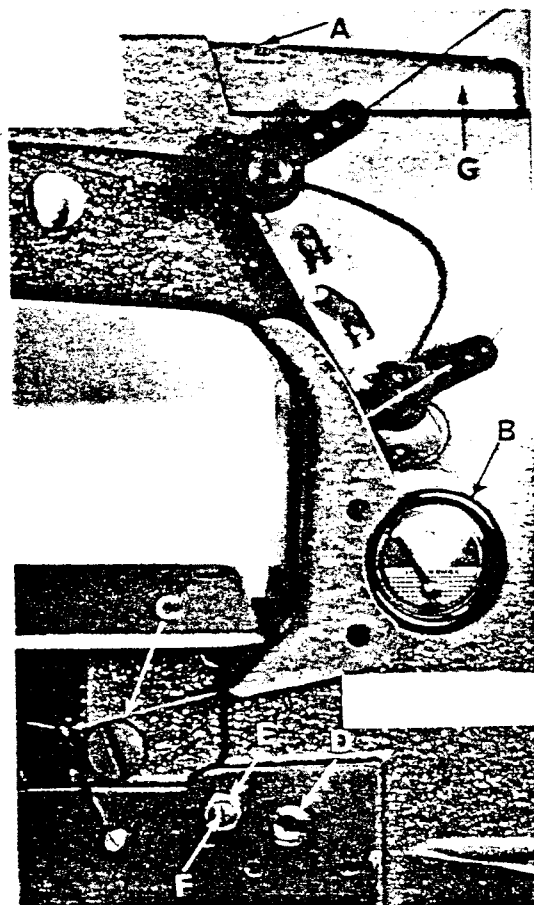
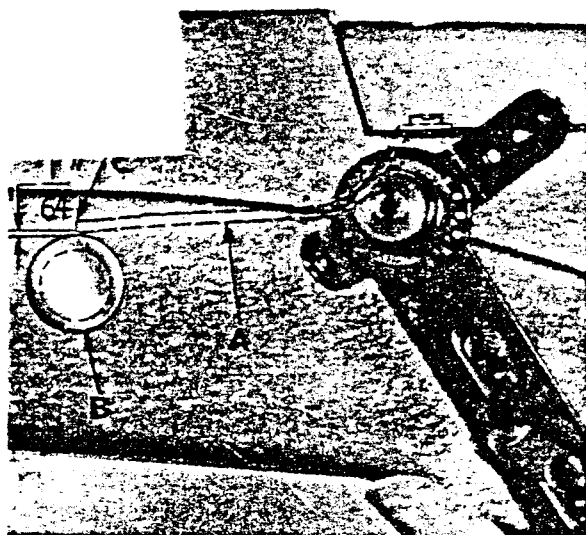

Fig. 2
Fig. 3
Use Singer Type C oil or equivalent. Fill main reservoir at plug screw in upper crank chamber cover (A, Fig. 2) and check oil level at gauge (B). Oil is at maximum level when needle is in yellow band marked "Full". Oil should be added when needle is in yellow band marked "Low". Recommended grease No. 28604 P (See Page 10).
For machines in operation check the oil for dirt and lint deposits at reasonable intervals. If dirty, change the oil. An oil change is recommended every 2000 operating hours. Oil may be drained from main reservoir by removing plug screw (C, Fig. 2) located below the cloth plate at front of the machine, or by removing the lower crank chamber cover, located at the back of machine.
2. Remove the oil reservoir plug screw (C, Fig. 2) and tip machine forward to drain oil from the reservoir.
5. Fill main reservoir to a level even with the bottom contour of the knee press shaft bushing (D, Fig. 2).
6. Loosen lock nut (E) on calibrating screw (F), and turn the screw to the left or right until the gauge needle rests in the middle of the yellow band marked "LOW".
7. Tighten lock nut (E) and replace plug screw (C).
Remove the head cover and upper crank chamber cover (G, Fig. 2). Check position of needle lever bearings oiler (A, Fig. 3) located inside the arm casting, below the upper crank chamber cover, which lubricates the needle lever stud (B). Make sure it is tilted downwardly and that its delivery end (C) contacts the insidewall of the bed casting at the back, just above the notch of the needle lever shaft stop collar. (Do not allow the oiler to rest on the needle lever.) Allow 1/64 inch clearance as in Figure 3.